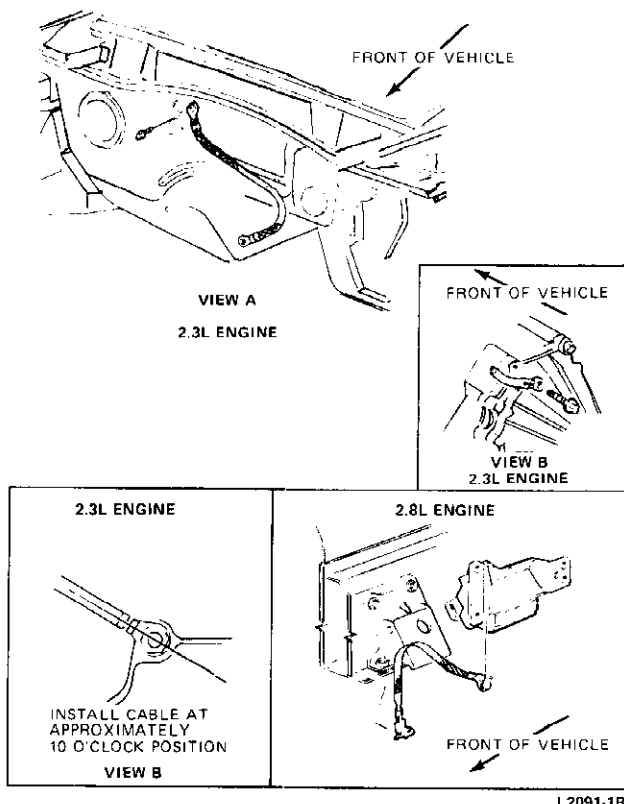

FIG. 7 Ground Cable; Engine to Dash Panel—Pinto, Bobcat and Mustang II
6. Connect the engine-to-dash ground cable (Fig. 7).